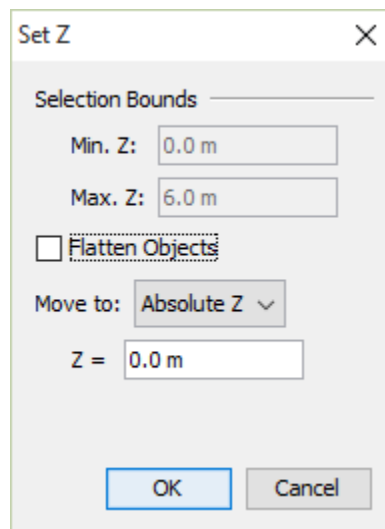

Figure 94. Set Z dialog
Sometimes when importing from 3D CAD models, extracted rooms may not be at the proper height or may have some undesired slope. These issues can be corrected either before or after extracting rooms by using the **Set Z** dialog (Figure 94).
3. This will open the **Set Z** dialog as shown in Figure 94.